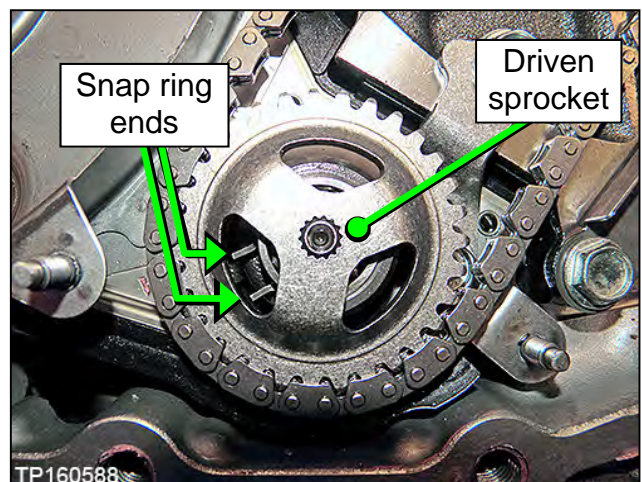

Figure 142
- Expand the snap ring with a suitable tool, and then push down on the driven sprocket until it bottoms out (Figure 142).